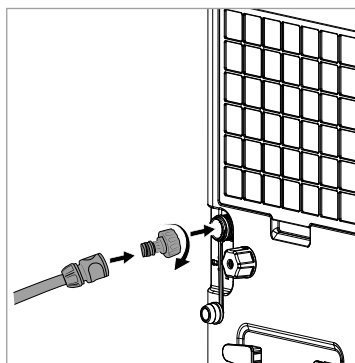

Fig. 5
- ▶ Depending on the garden hose system you use, you may need an additional adapter (see Figure 5). These are available from specialist stores.